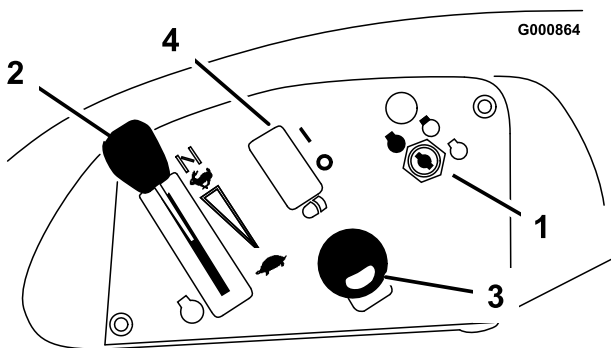
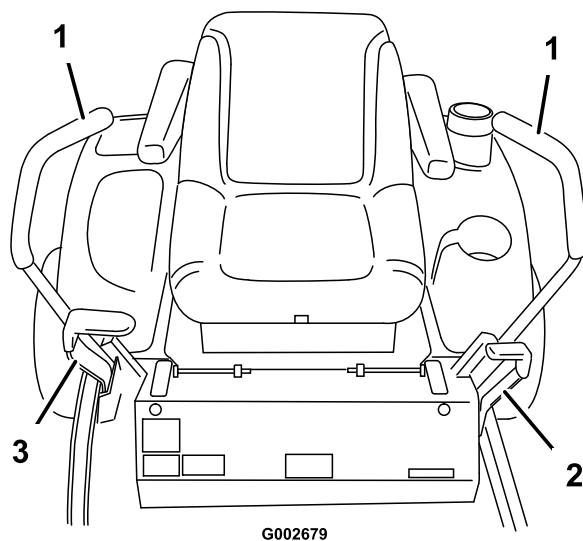

Figure 4
Figure 5
Become familiar with all of the controls (Figure 4 and Figure 5) before you start the engine and operate the machine.
1. Move the motion control levers (Figure 5) out to the neutral lock position.